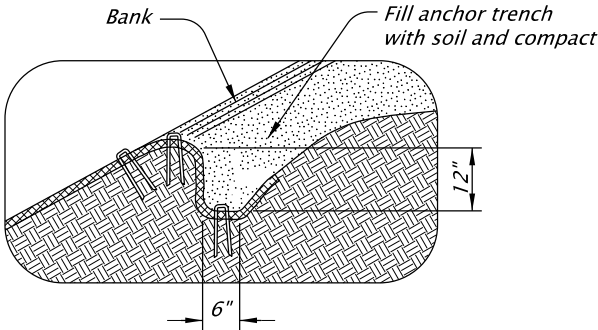

FIGURE A2:
6. Anchor top edge of side channel matting in trench and fasten 12" OC (Fig. A2).